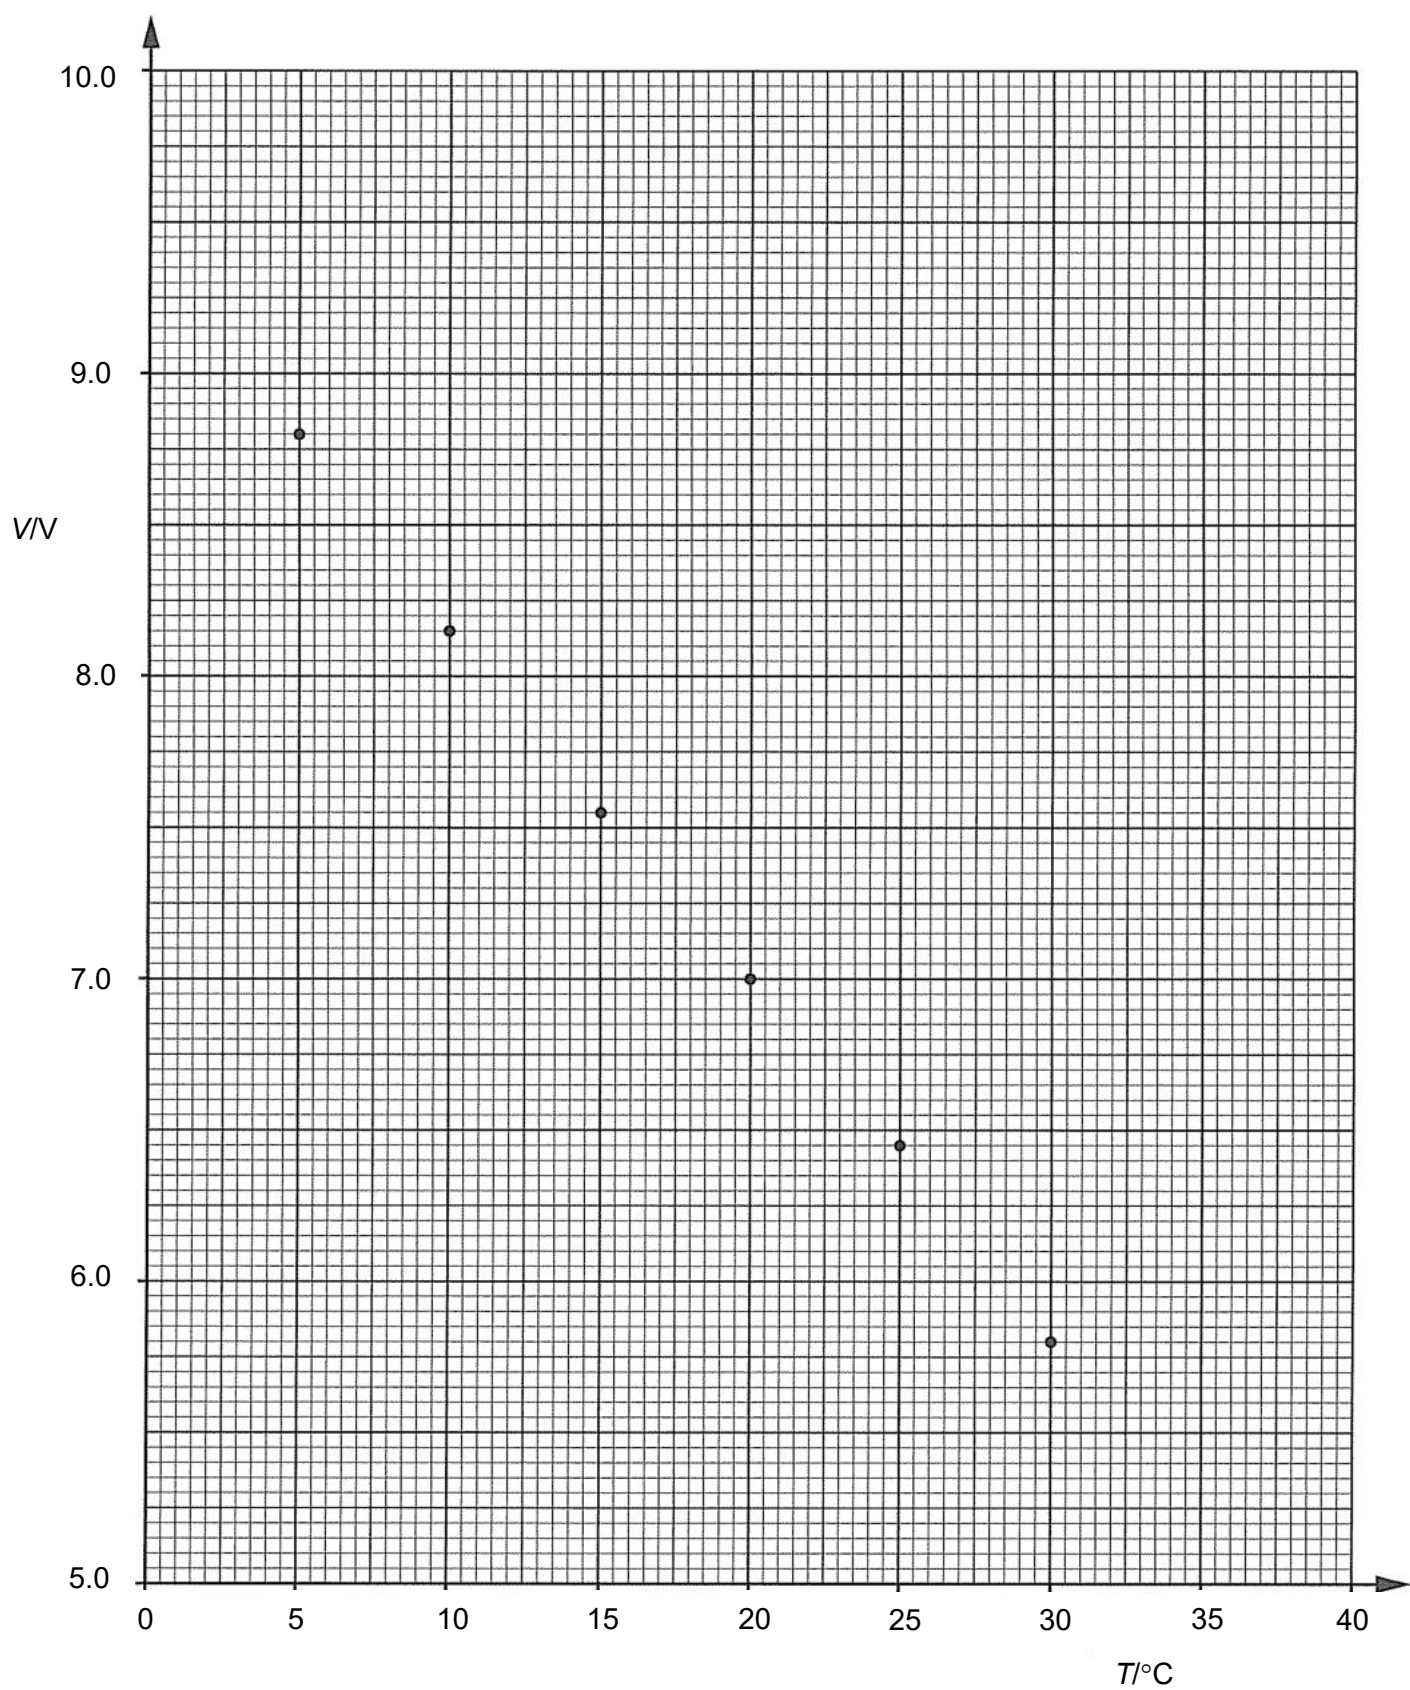

Fig. 8.2
- (iii) Fig. 8.2 shows the variation with temperature T of the open circuit voltage V . Draw the line of best fit. [1]
- (iv) Use Fig. 8.2 to determine the constants μ and T_R .